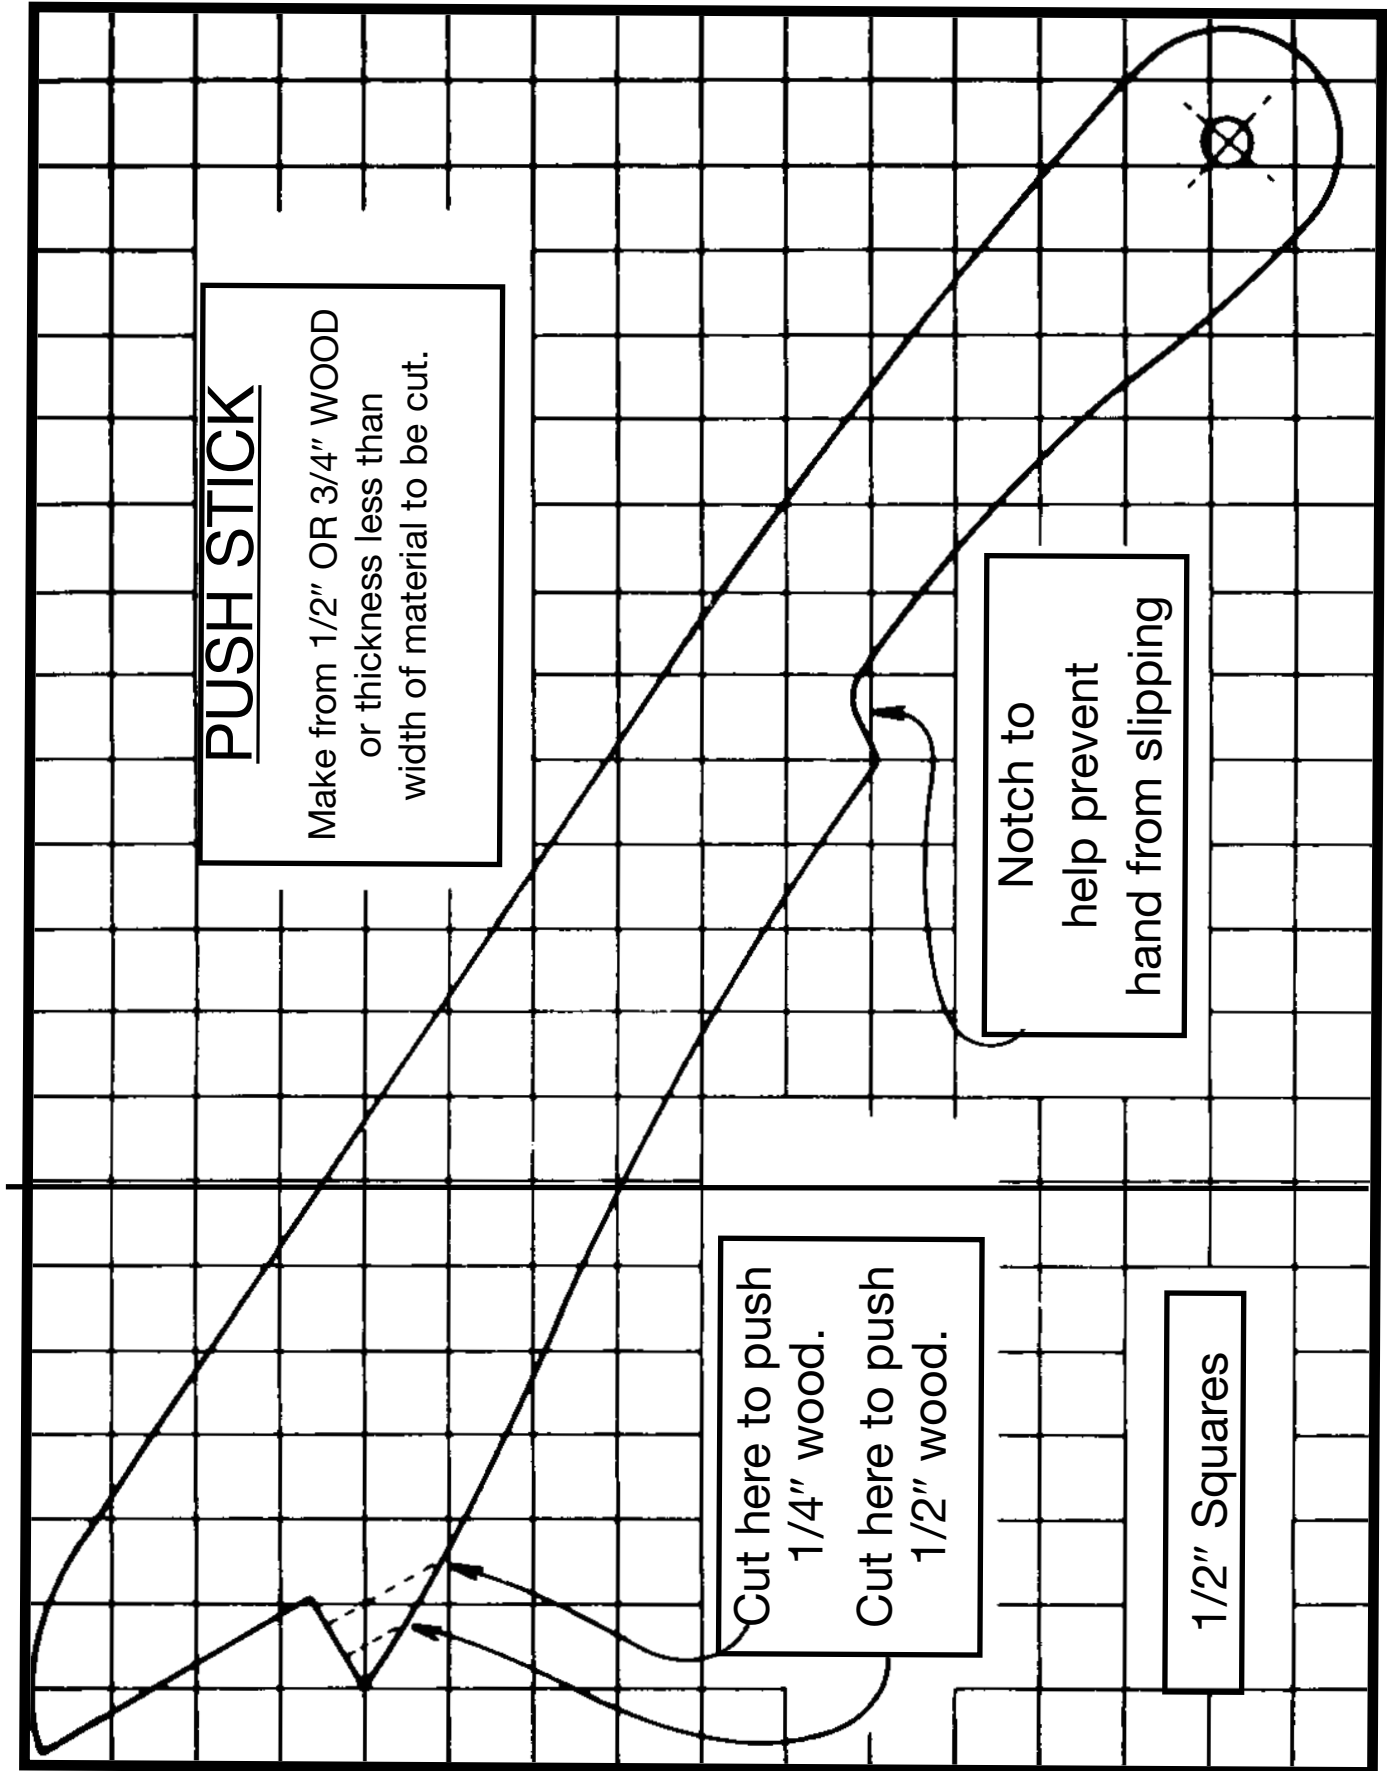

Fig. 58
Ripping involves making a lengthwise cut through a board along the grain. When ripping, the track arm is clamped at “0” on the miter scale. The yoke is then positioned and clamped so that the blade is parallel to the fence. When feeding the material, one edge rides against the fence while the flat side of the board rests on the table. The guard should be lowered on the in-feed side until it almost touches the workpiece (Figs. 56 and 57), to act as a holddown. The splitter and anti-kickback fingers (A) Fig. 56 should be adjusted as described under the section **“ADJUSTING SPLITTER AND ANTI-KICKBACK FINGERS”** in this manual. The operators hands should always be well away from and to the side of the blade. When ripping narrow work, always use a push stick as shown in Fig. 58 to push the work between the fence and blade. The workpiece must have one straight edge to follow the fence. If board is bowed, place hollow side down. The cutting-head clamp knob should be securely tightened for all ripping operations.
**⚠ WARNING** WHEN RIPPING WORK LESS THAN FOUR INCHES WIDE, USE A PUSH STICK TO COMPLETE THE FEED. (FIG. 58)
When ripping work less than 4 inches wide, a push stick should be used to complete the feed and could easily be made from scrap material by following the pattern shown in Fig. 58.